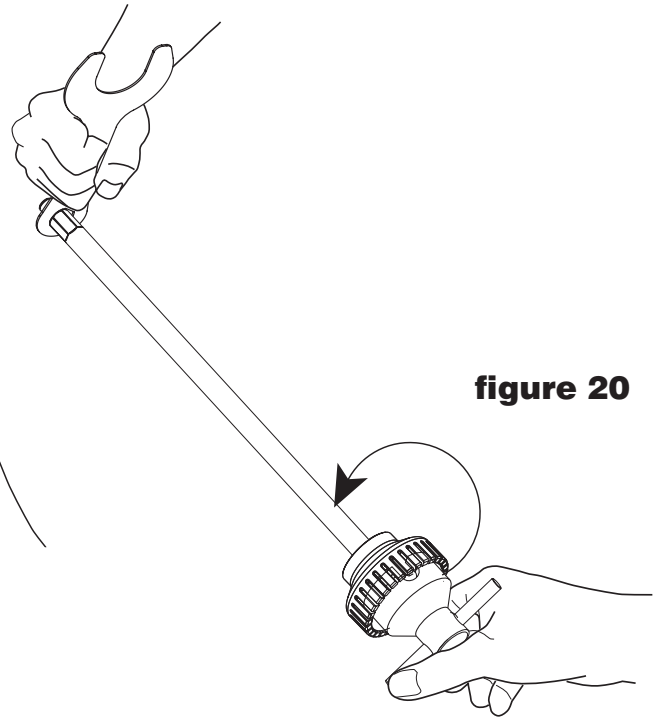

figure 20
2) Block the blade with the special key and spanner as shown (Fig. 20)